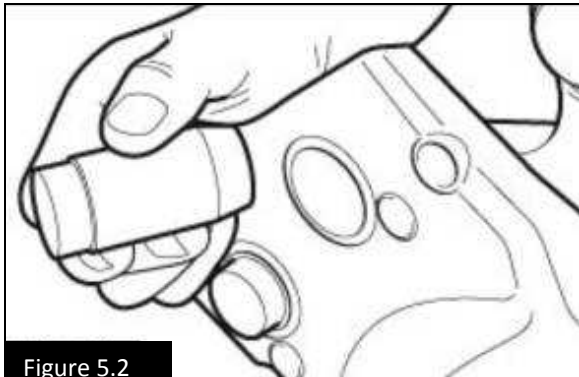
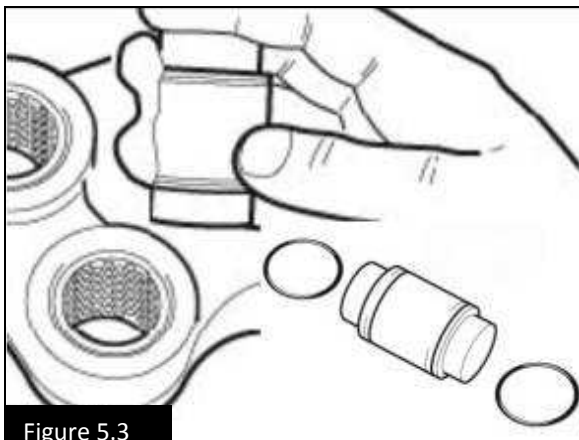

Figure 5.2
Figure 5.3
6. Apply a small amount of Meritor Brake Lubricant to the bores of the anchor pin bushes and a light covering to both sides of the Brake Spider around the anchor pin bushes. Push the anchor pins into position in the anchor bracket. (Figure 5.2) Where applicable, fit new O rings to the anchor pins (Fig 5.3)